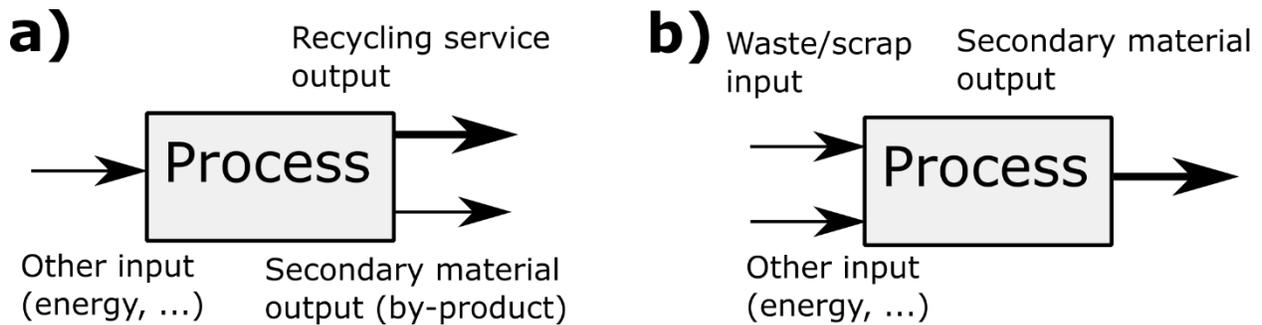

Figure E6.4: LCIA
In life cycle databases recycling can be modelled in two different ways: a) as unit process whose main output is a service of recycling waste or scrap, in which case the secondary material would be a by-product. Or b) as unit process whose main output is the secondary material, and waste or scrap is an input flow (Fig. E6.4). In ecoinvent the second option is chosen. That means that the recycling and recovery processes are not listed among the waste treatment processes (382) but among the group materials recovery (383) or with the respective material production sectors (groups 2xxx).